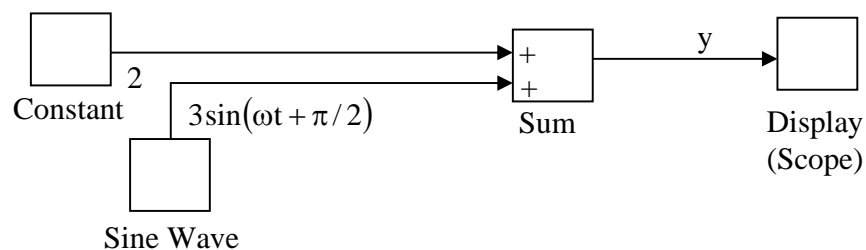

Figure 1 Block diagram algorithm for equation (1)
Block diagram algorithm for function (1) is given in **Fig. 1**.